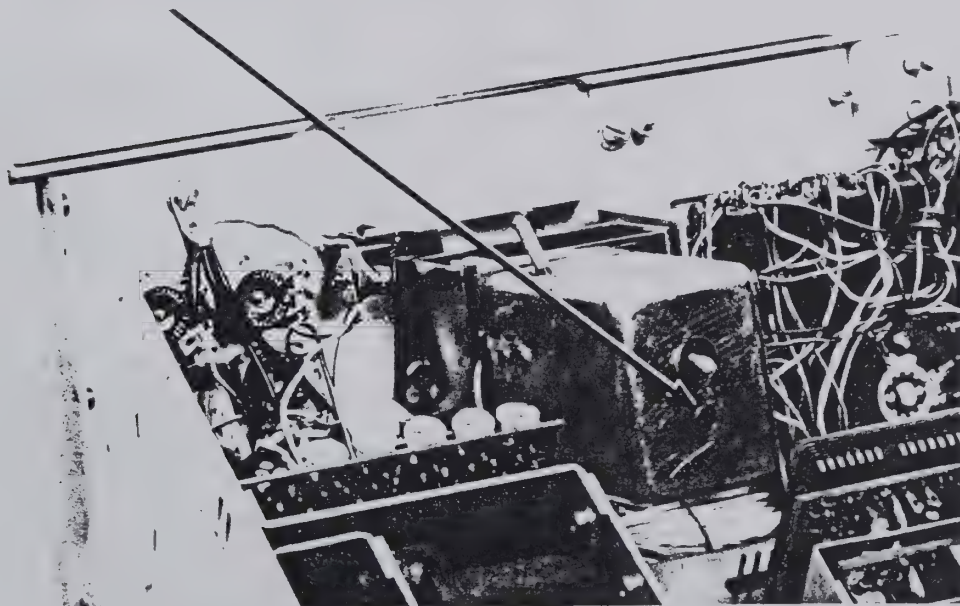

Fig. 2-38 PTO Torque Adjustment
7. Refer to figure 2-38 and identify the wrench access hole in the rear of the PTO cover. Insert a long (at least 3") 3/32" ALLEN wrench straight through this hole, seating the wrench in the ALLEN set screw which serves as the shaft bearing. The proper wrench is available from the factory. Be sure to insert the wrench straight through the access hole, to avoid damaging any components inside the PTO.